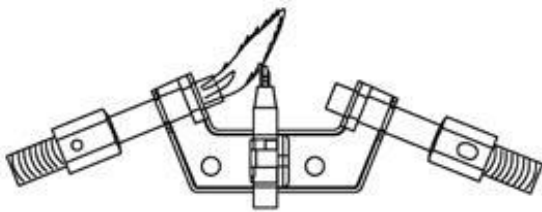

Figure 22 -Correct Pilot Flame Pattern
2. Inspect pilot flame and refer to Figure 22 and 23.
- Figure 22 shows a correct pilot flame pattern.